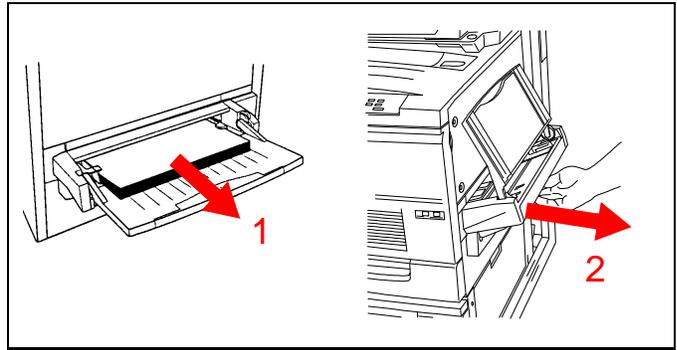

Figure 12
1. See Figure 12. Remove all paper from the bypass tray.